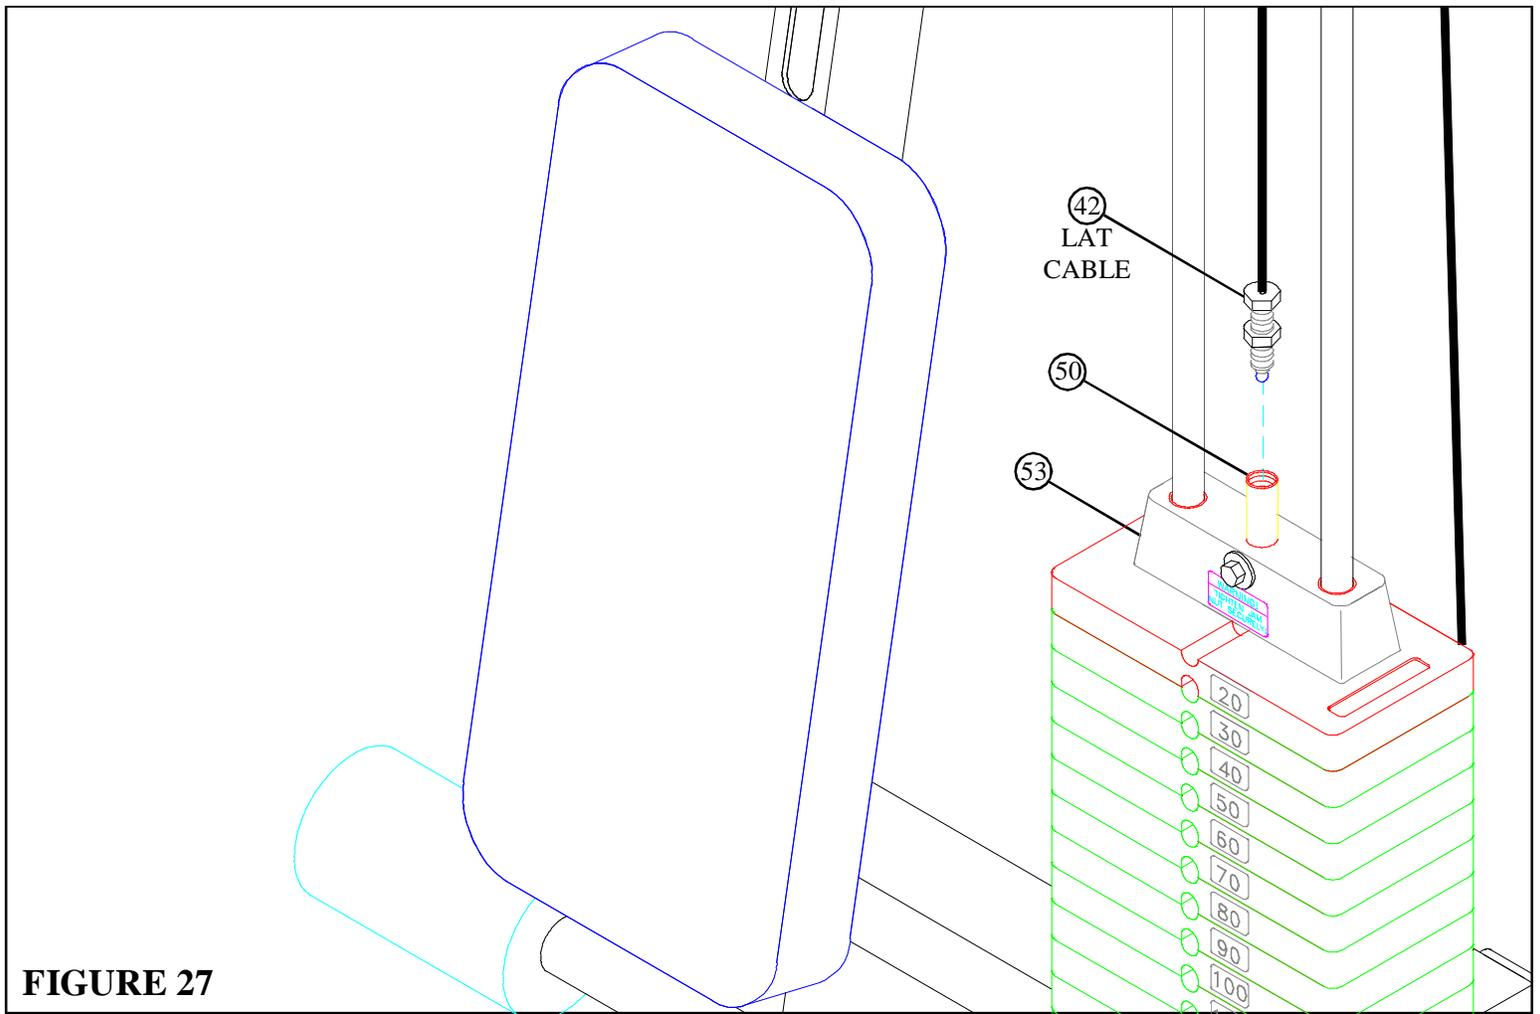

FIGURE 27
- Screw the threaded end of the LAT CABLE (42) approximately 1" into the end of the SELECTOR SHAFT (50) of the HEAD PLATE (53) as shown in FIGURE 27.